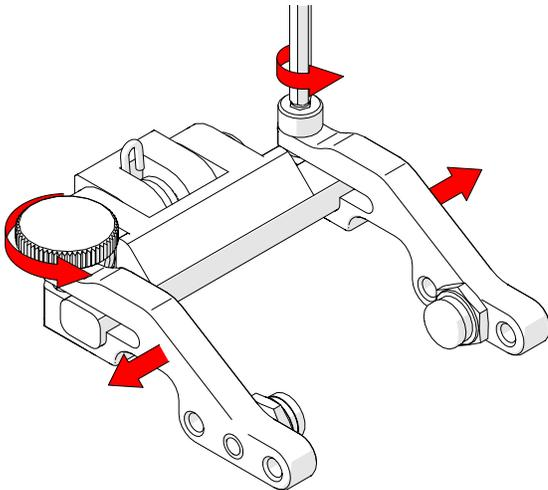

Fig. 41 - Remove probe holder arms
1. Loosen the probe holder arm adjustment knob (Fig. 41) and remove the attached probe holder arm from the yoke.
2. Using the 3 mm hex driver, loosen the arm clamp screw and remove the probe holder arm from the yoke (Fig. 41).